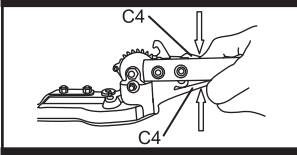

Fig. 16a
- a). Depress the unlock levers (C4) with one hand and hold them in position. (See Fig. 16a)